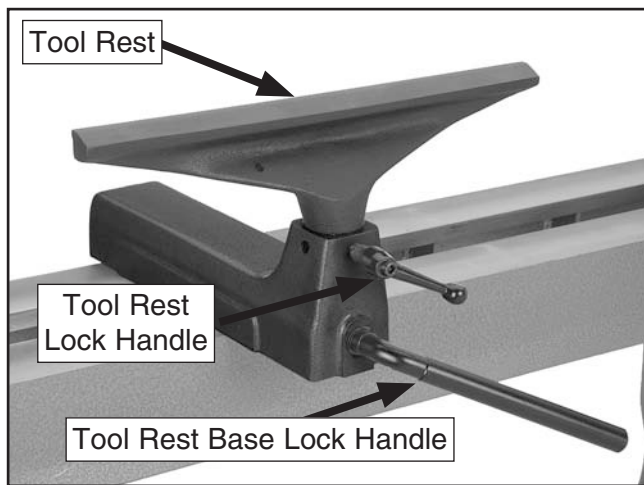

Figure 20. Tool rest controls.
1. Loosen the tool rest base lock handle and move the tool rest assembly to the desired position on the lathe bed (see **Figure 20**).